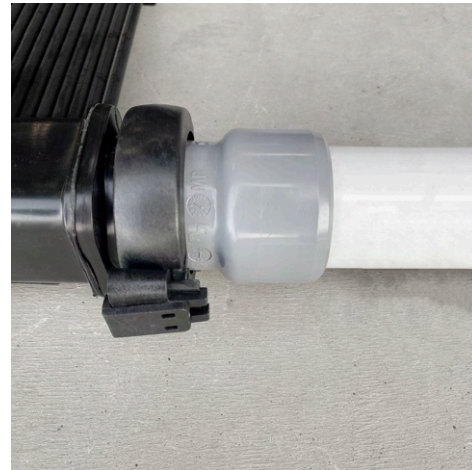

Fig. 21.2
- 2b. If using 1.5" PVC pipe, refer to Fig. 21.2 above. Cement the 1.5" PVC pipe directly to the (2-1810-005) pipe connector.